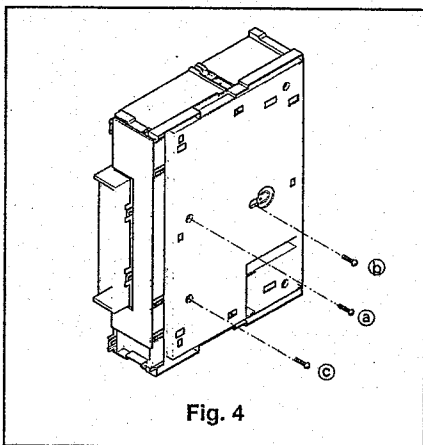

Fig. 4
- ③ Remove the three fastening screws (Ⓐ, Ⓑ and Ⓒ) on the bottom of the set shown in Fig. 4.